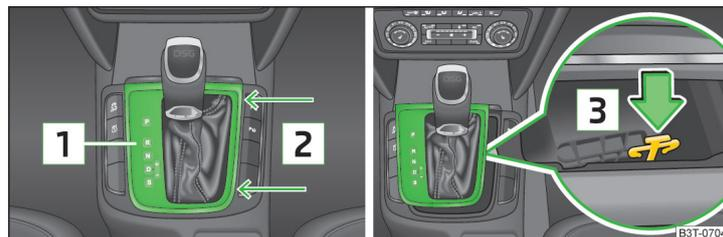

Fig. 195 Selector lever-emergency unlocking
- Grasp the cover **1** in the area of arrow **2** » Fig. 195 and carefully pull upwards.